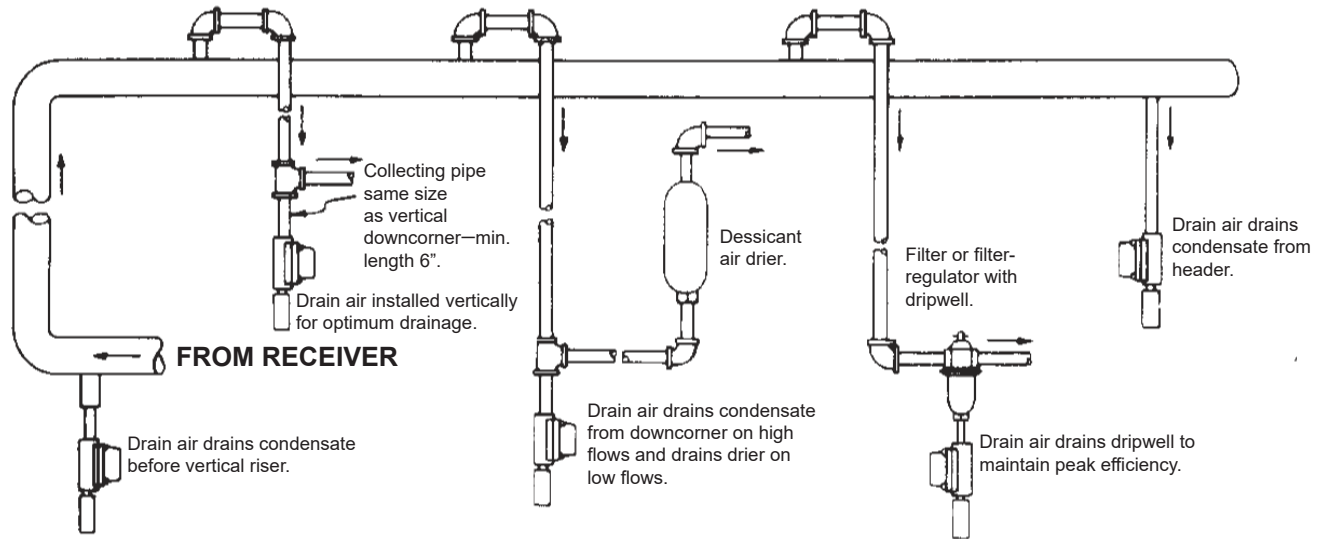

Figure 1. Typical Installations of Drain Air
1. Install Drain Air at lowest point of equipment or line in vertical position with outlet facing down. Arrow on body bottom shows flow line, see Figure 1 for typical installations.